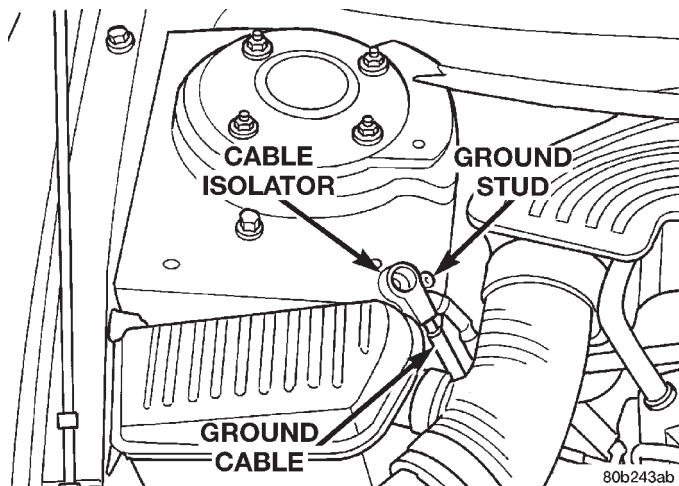

Fig. 9 Correctly Isolated Remote Ground Cable
(1) Remove the remote ground cable from the ground stud on the right strut tower.
(2) Correctly isolate remote ground cable when servicing vehicle by installing the ground cable insulator on the strut tower ground stud as shown in (Fig. 9) and installing the nut on the stud. **This will prevent accidental grounding of the remote ground cable.**